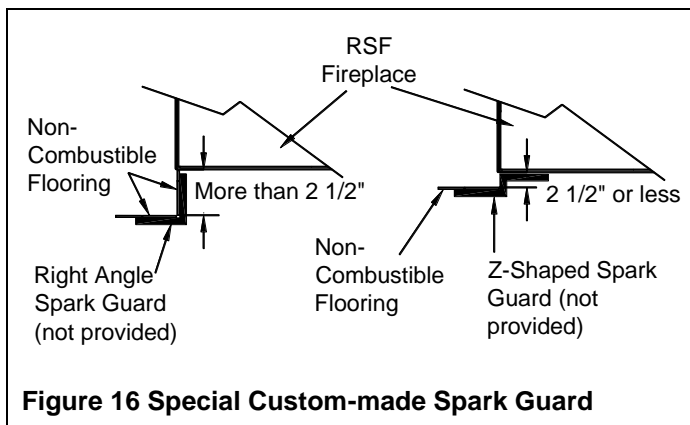

Figure 16 Special Custom-made Spark Guard
If you are preparing a raised installation, you will need a custom-made spark guard, either a "Z" shaped spark guard or a right-angle spark guard (see Figure 16). The Z-shaped spark guard must be used if the height between the bottom of the fireplace and the top of the non-combustible flooring of the hearth extension is less than or equal to 2 ½". The height of the Z-shaped spark guard must equal the distance between the floor and the base of the unit and go under the hearth extension and the fireplace by at least 2 ½". If the unit is installed higher than 2 ½" from the top of the flooring, a right-angle spark guard is necessary. The sides of the right-angle spark guard should be at least 2 ½" x 2 ½" and must be covered with non-combustible material. Any custom-made spark guard must have the minimum width specified in Table 1 (I) and be installed centered on the door opening.